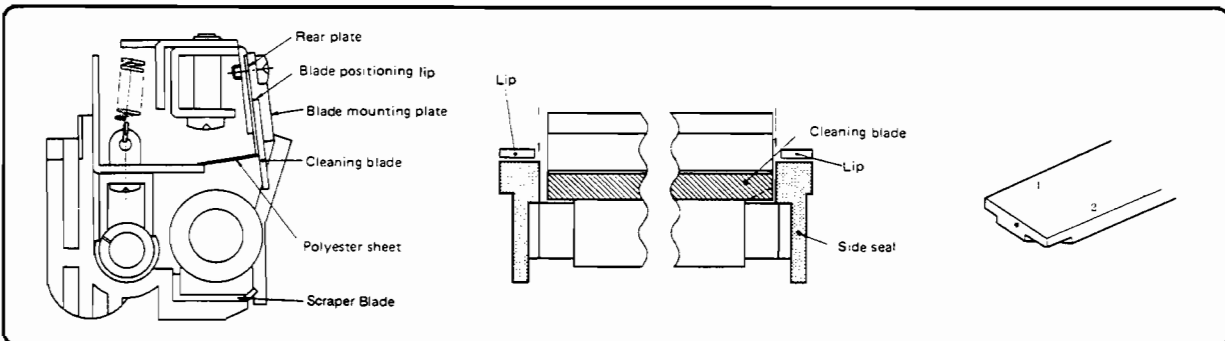

Figure 6-71. Cleaning Blade Installation
Both edges of the cleaning blade can be used (edges 1 or 2 shown in Figure 6-71 ride on the EP Drum surface). Do not reuse a damaged blade.
2. Make sure that the polyester sheet attached to the backing plate is at the position shown in Figure 6-71.
3. Position the blade in the center of the side seals (Figure 6-71).
5. Apply the side seals to the Cleaning Station assembly housing so that the side of the seal just touches the end of the cleaning blade, and the top of the seal contacts the lip on the housing (refer to Figure 6-71).